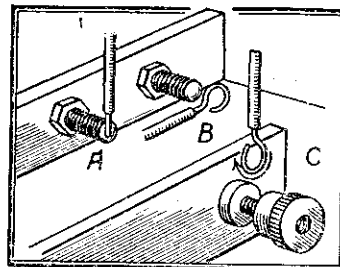

Fig. 3.—Instead of soldering the straight end of a wire to a terminal stem, it is much better to bend the end of the wire into a loop and then solder it.
Instead of just soldering the straight end of a wire to a terminal stem (A, Fig. 3) which is a common practice, it is much better to bend the end of the wire into a loop (B) of a diameter a little less than that of the stem, over which it can be forced by the soldering iron. This joint is strong and quite simple to make. Each joint should afterwards be rubbed over with a piece of rag to remove all traces of flux.
Where it is desired to make the connections without soldering it should be remembered that there is a right and a wrong way of forming the loop at the wire for clamping under a terminal nut. The proper way is to bend the loop in a clock-wise direction, as shown at C, Fig. 3, so that when the nut is tightened the wire will tend to wrap itself more closely around the stem. When the loop is placed over the terminal the opposite way round it will tend to open out. This point is important when the terminals are of small size, like those on a valve holder.